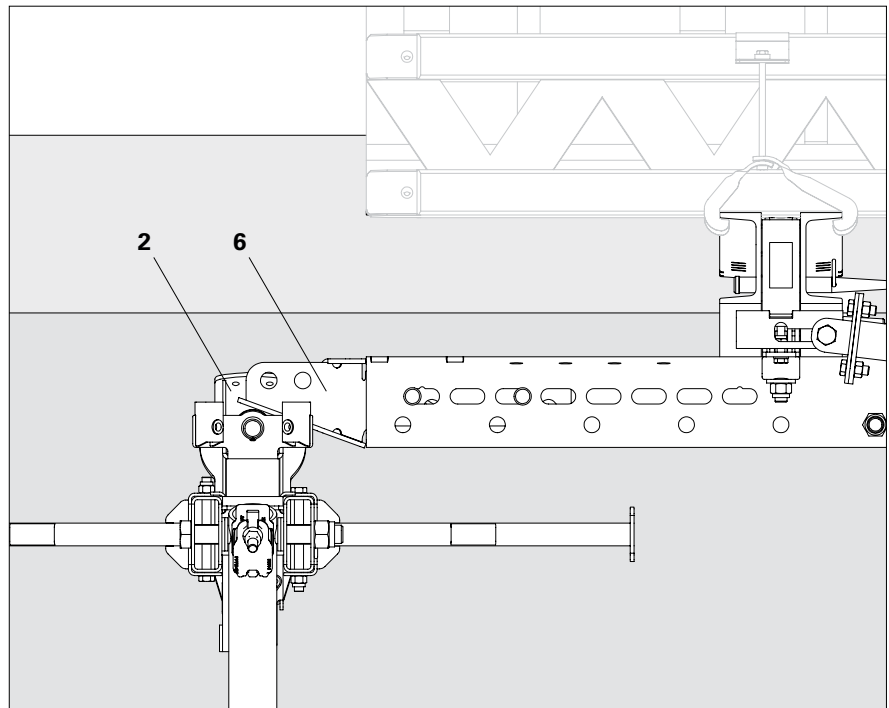

Fig. B7.02
→ Travelling Nose (6) rolls onto the first raised Roller Drophead (2) and is lifted together with the slab formwork. (Fig. B7.02)
3. Attach tensioning chains (25), and pre-tension. Ensure the slab formwork is in a stable position.